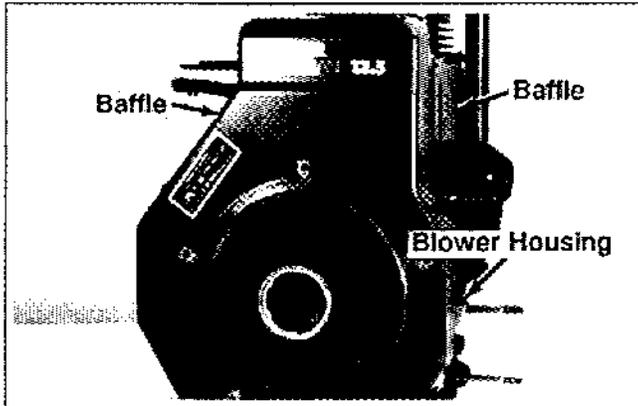

Figure 11-33. Installing Blower Housing And Baffles.
2. Install the grommet around the high tension lead. Insert the grommet into the slot in the blower housing. Install the blower housing and baffles using hex flange screws. See Figure 11-33.